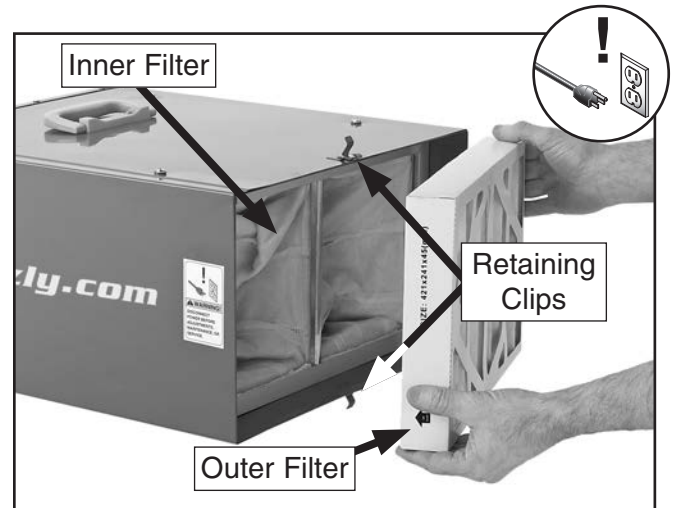

Figure 15. Filters exposed for cleaning.
2. Un-latch the filter retaining clips from the top and bottom of the unit, as shown in **Figure 15**, and remove the outer filter. Place the filter in a trash bag and shake it gently to remove the bulk of the dust.